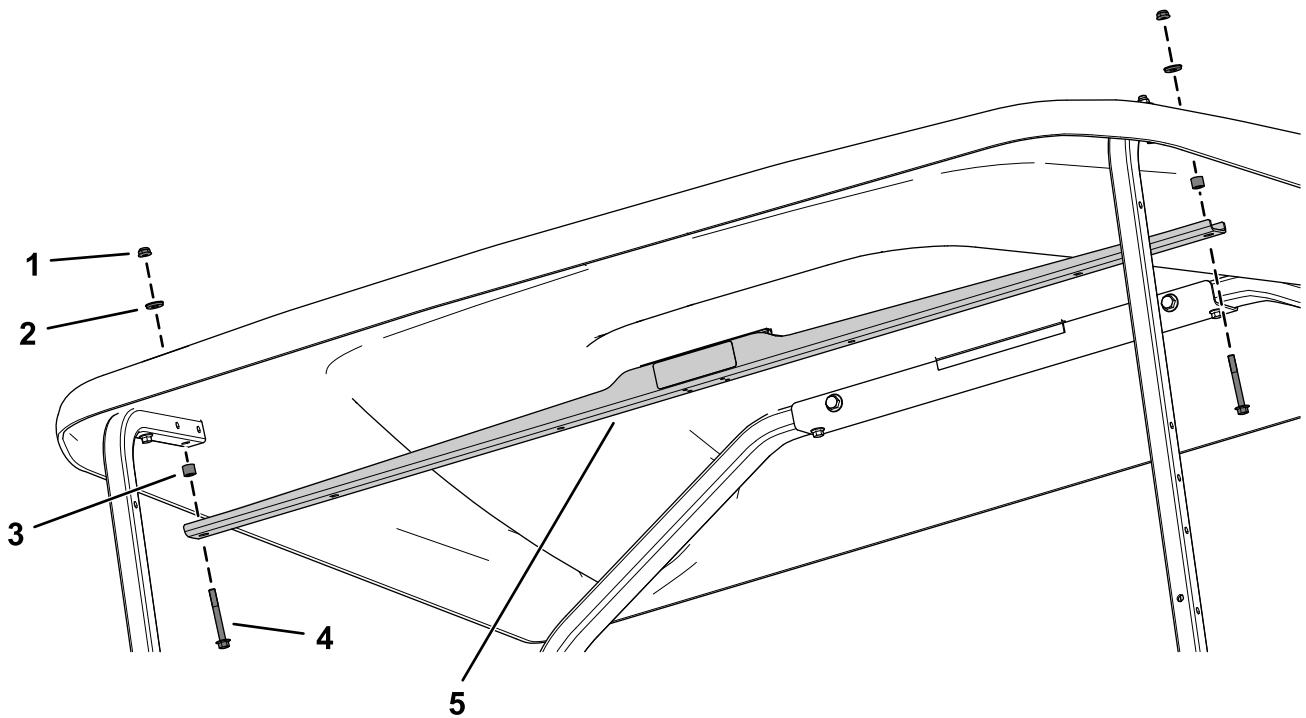

Figure 17
2. Secure the canopy support bracket to the front support tubes and canopy using the 2 flange-head bolts (1/4 x 2-1/4 inches), 2 spacers (1/4 inch), 2 sealing washers, and 2 locknuts (1/4 inch) as shown in Figure 17.